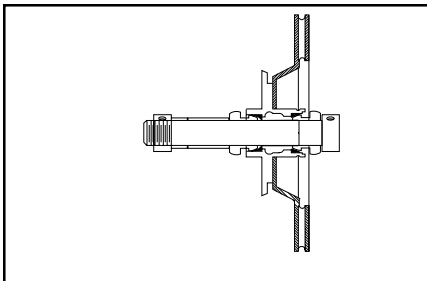

Figure 25 Use collets in bearing race as illustrated, add necessary spacers
C. Install collet for inner bearing race on arbor. **See Figure 25.** Then mount the rotor, collet for outer bearing race, and necessary spacers to fill arbor past mounting surface. Install arbor nut and tighten by hand. This will center the rotor on the collets. Using 90578 Spanner Wrench, tighten arbor nut snugly. If rotor touches housing, place a spacer on arbor between inner collet and arbor shoulder.